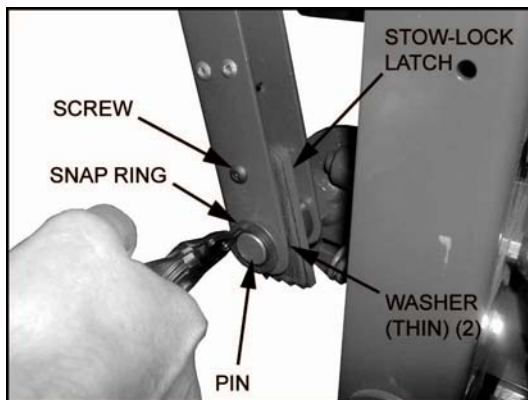

FIGURE 3-29
5. Refer to **Figures 3-29** and **3-30**. Detach snap ring from pin then remove washer and split washer. Retain for installation.
NOTE: Refer to **Figures 3-29** and **3-30**. When removing knuckle arm assembly from platform pin, detach 2 thin plastic washers and one thick plastic washer. Retain for installation.